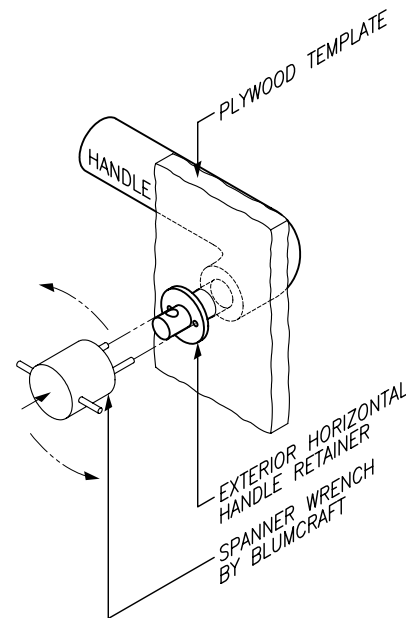

FIGURE 5
5. USE SPANNER WRENCH (FURNISHED BY BLUMCRAFT) TO REMOVE EXTERIOR FIXED PULL HANDLE ACTUATOR AND RUBBER BUSHING (FIGURE 5). (REUSE BUSHING ON GLASS.)